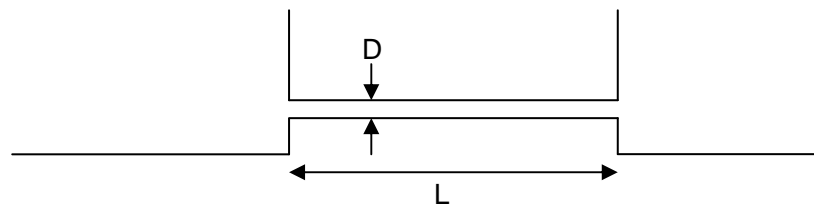
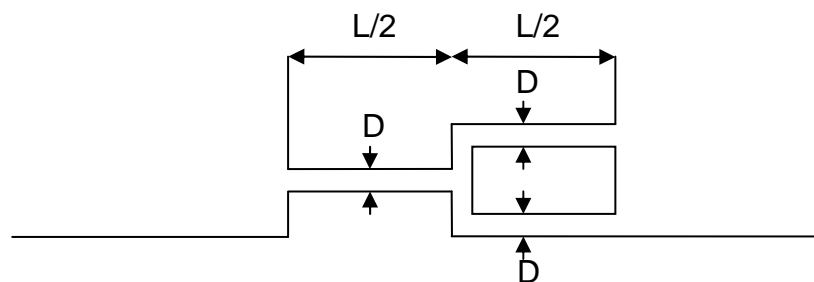

Fig. 9a
Fig. 9b
(9) A single uniform joins two reservoirs of fluid as shown in Fig. 9a. Calculate the percentage increase of flow rate obtainable if, from the mid-point of this pipe, another of the same diameter is added in parallel to it as shown in Fig 9b. Neglect all losses except pipe friction and assume a constant and equal f for both pipes.